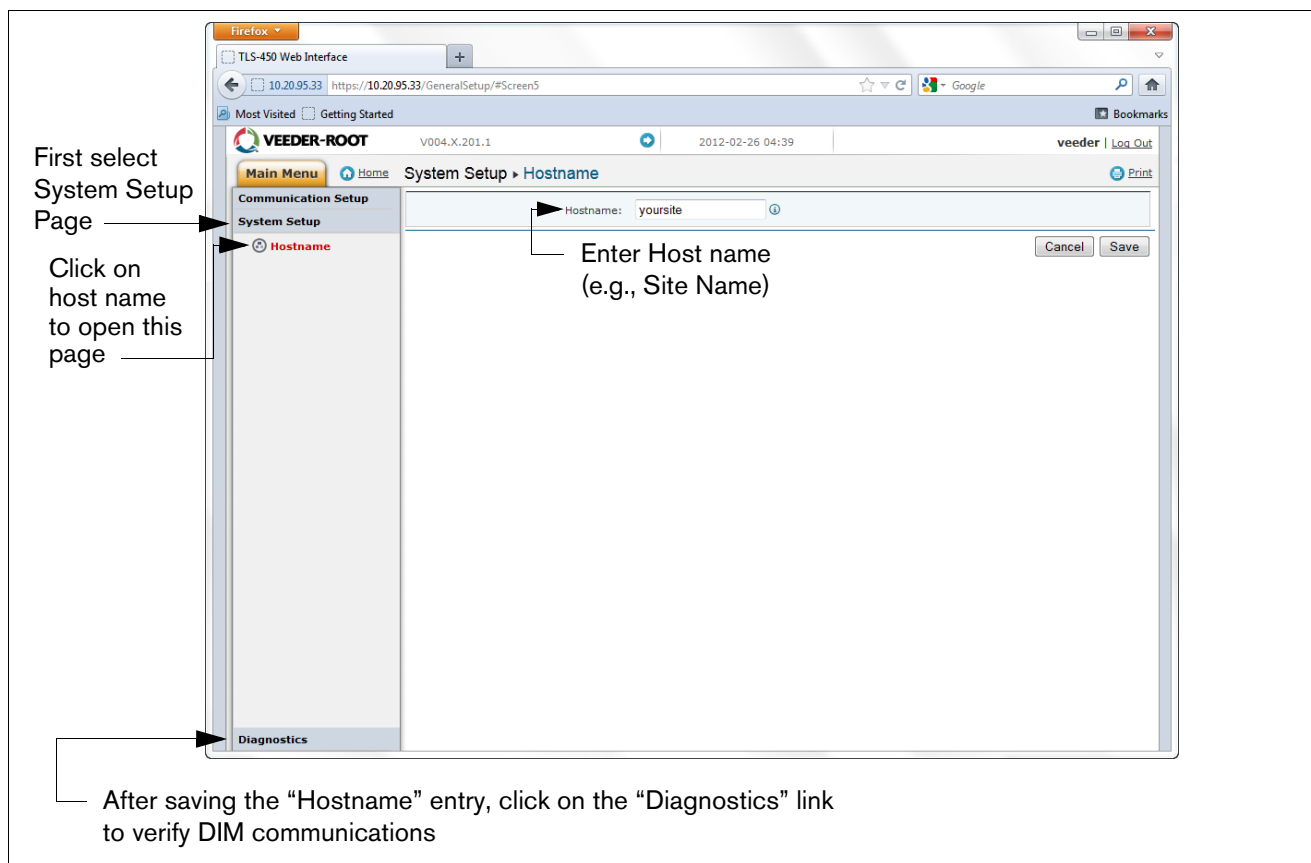

Figure B-9. Entering Host name
11. Select the "System Setup" page and type in the Host name and then click the "Save" button (see example in Figure B-9). It is recommended that you use the network name assigned by the network administrator or some other name that identifies the location. While on this page click the Diagnostic Page link (bottom Left).